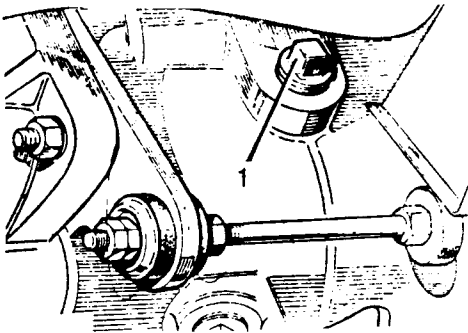

Fig H1.162
- (1) Refer to Fig H1.162. Remove the filler level plug (1).
- (2) Check that the oil is up to the bottom of the filler plug hole.
- (3) If necessary pour oil into the filler plug hole to bring the oil up to this level.
- (4) Allow excess oil to drain off through the filler hole.
- (5) Replace and tighten the filler level plug.
- (6) Wipe off any excess oil around the plug.